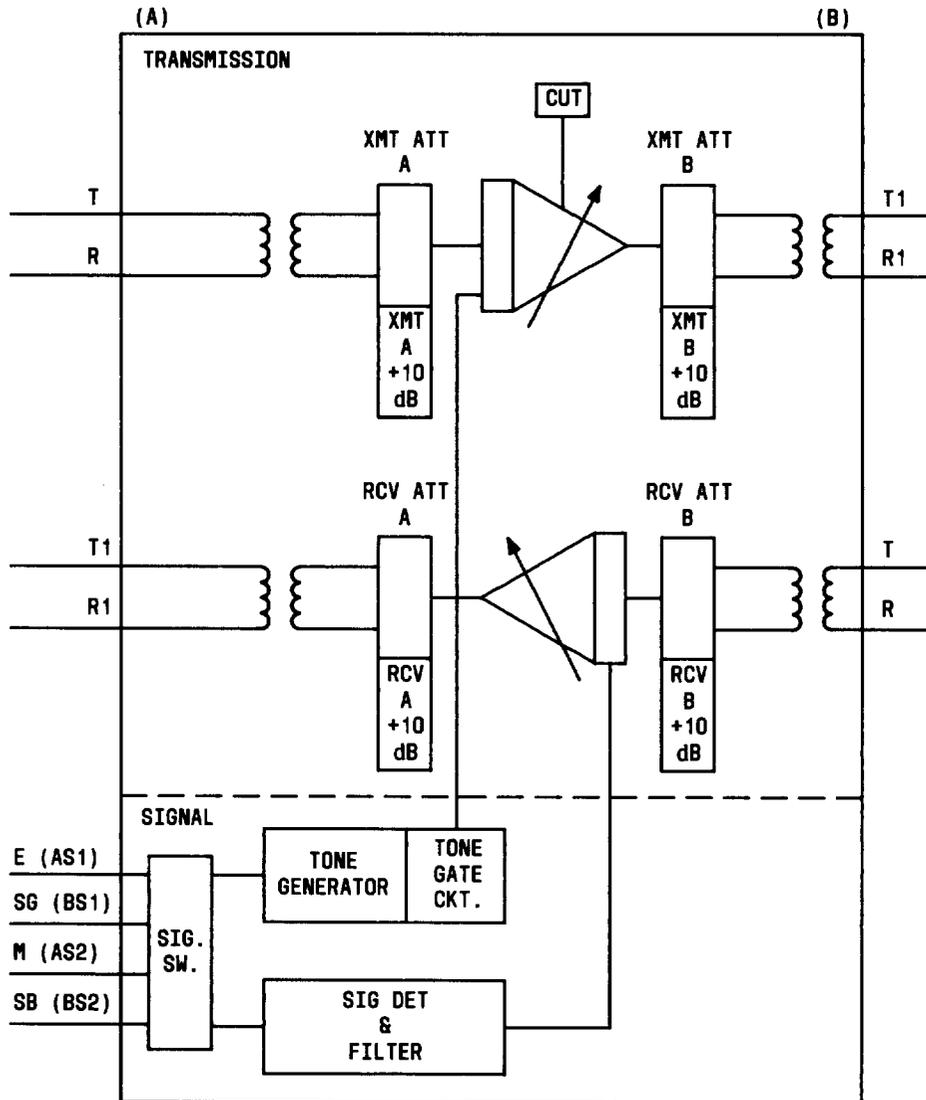

Fig. 4—Block Diagram of the J99343SG CFU
3.01 The J99343SG CFU is shown in Fig. 3. The unit provides gain and equalization for both directions of transmission between loaded or nonloaded 4-wire facilities. Figure 4 is a block diagram of this unit.